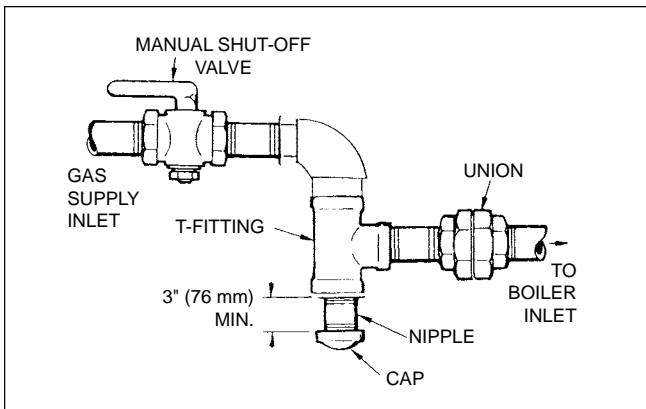

Figure 25. T-Fitting and Sediment Trap.
5. Install a sediment trap (drip leg) ahead of the gas controls (see Figure 25). Fit the trap with a threaded cap which can be removed for cleaning.